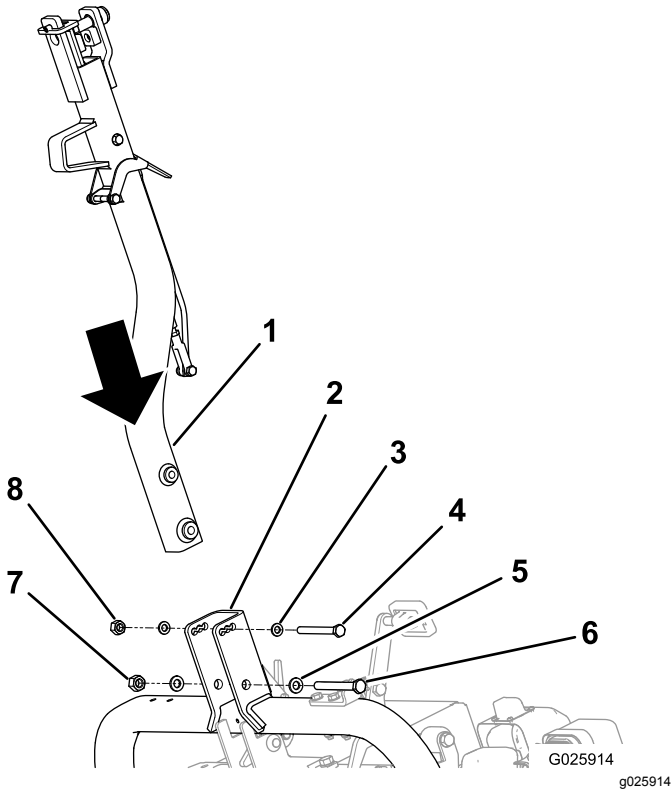

Figure 5
2. Secure the hitch to the hitch pivot bracket with the appropriate hardware; refer to Figure 5.